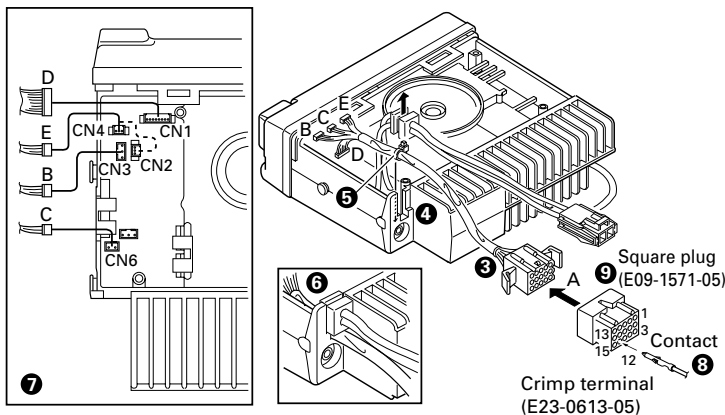

Fig. 2
4. Replace the DC cord bushing ( ❻ ).
5. Connect the KCT-19 to the TX-RX unit (A/2) as shown in Figure 2 ( ❼ ).
6. Connect the KCT-19 to the external accessory by inserting the crimp terminal ( ❸ ) into the square plug ( ❹ ), both of which are supplied with the KCT-19.